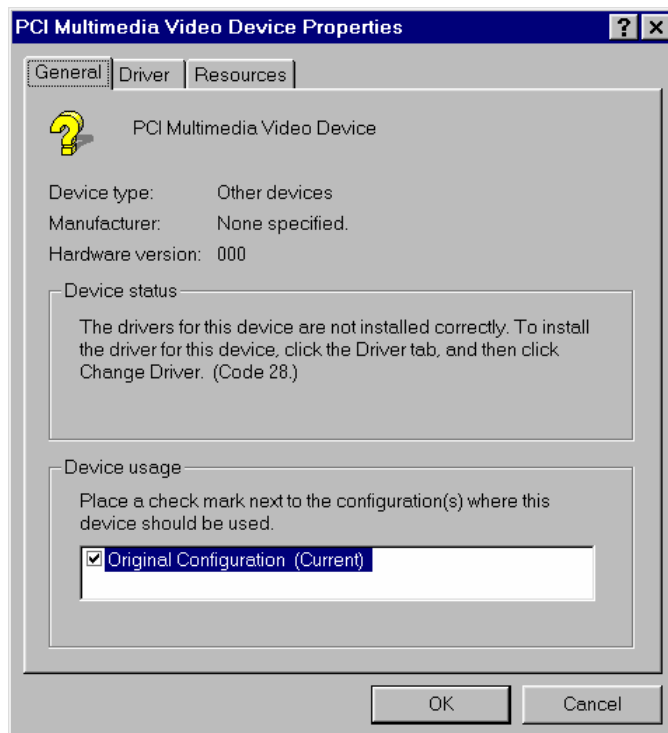

Figure 4. Unidentified Telegeny device properties sheet
- Double-click on this line to bring up the device properties sheet (as shown in Figure 4).